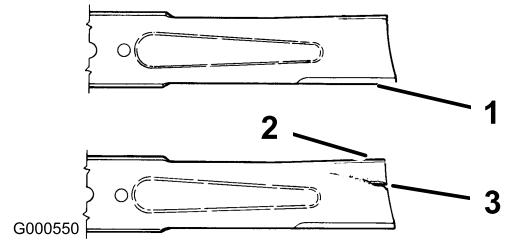

Figure 36
1. Inspect the cutting edges (Figure 36). If the edges are not sharp or have nicks, remove and
2. Inspect the blades, especially the curved area (Figure 36). If you notice any damage, wear, or a slot forming in this area (item 3 in Figure 36), immediately install a new blade.